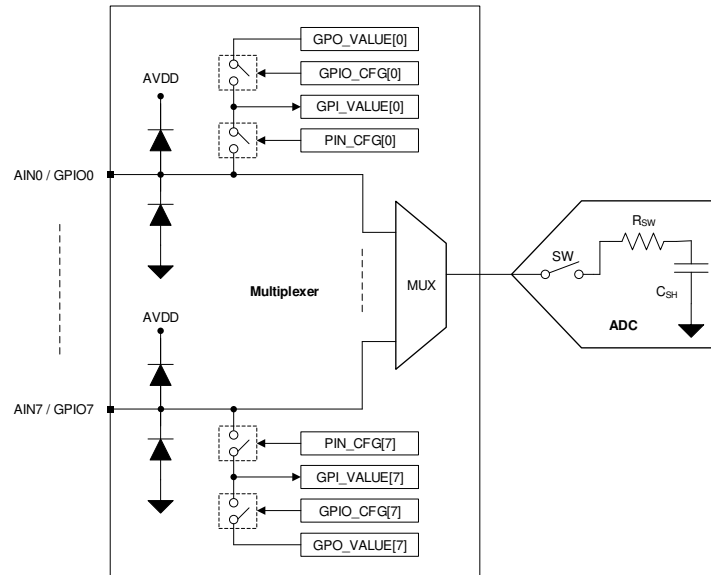

图 7-1. Analog Inputs, GPIOs, and ADC Connections
The eight channels of the multiplexer can be independently configured as ADC inputs or general-purpose inputs/outputs (GPIOs). As shown in Figure 7-1, each input pin has ESD protection diodes to AVDD and GND. On power-up or after device reset, all eight channels of the multiplexer are configured as analog inputs.
Figure 7-1 shows an equivalent circuit for the pins configured as analog inputs. The ADC sampling switch is represented by an ideal switch (SW) in series with a resistor (R_{SW} , typically $150\ \Omega$) and a sampling capacitor (C_{SH} , typically $30\ \text{pF}$). During acquisition, the SW switch is closed to allow the signal on the selected analog input channel to charge the internal sampling capacitor. During conversion, the SW switch is opened to disconnect the analog input channel from the sampling capacitor.
To enable write access to the configuration registers for diagnostics, write 0x96 in the DIAGNOSTICS_KEY register. To enable bit-walk test mode, configure BITWALK_EN = 1b. In the bit-walk test mode (see 图 7-1), the sampling switch (SW) remains open and the test voltage is applied on the sampling capacitor (C_{SH}) during the acquisition phase of the ADC. In diagnostic mode, the conversion process of the ADC remains the same as normal device operation. The ADC starts the conversion phase on the rising edge of $\overline{CS}$ and outputs the code corresponding to the sampled test voltage. The output code of the ADC is expected to be proportional to the test voltage, as shown in 方程式 2, after adjusting for DC errors (such as INL, gain error, offset error, and thermal drift of offset and gain errors).